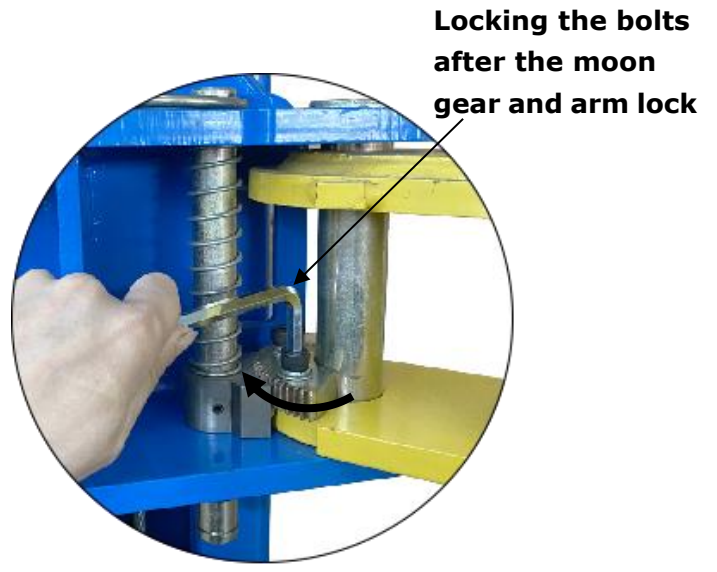

Fig. 39
4. Adjust the moon gear and arm lock to make it to be meshed, then tighten the nut of arm lock (See Fig. 39).